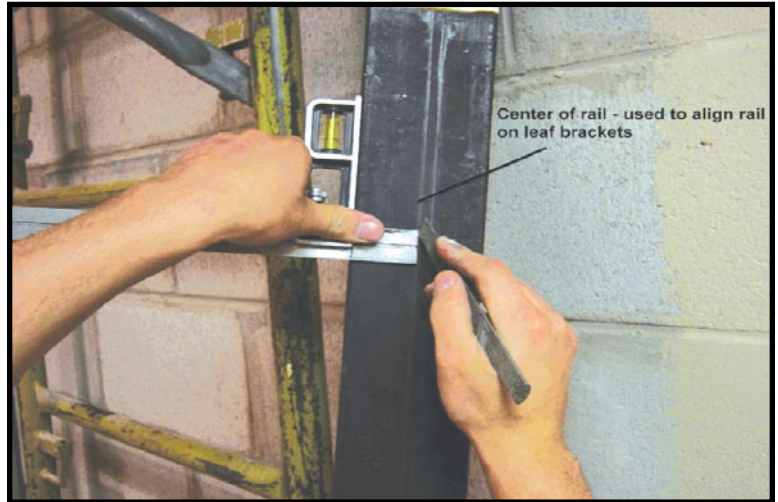

Figure 11
- 8) Scribe a centre line on the back of each rail using a T-square and scribe as shown in Figure 11. This line will be used to align the rail with the leaf brackets using the diamond cut-out on the leaf bracket.